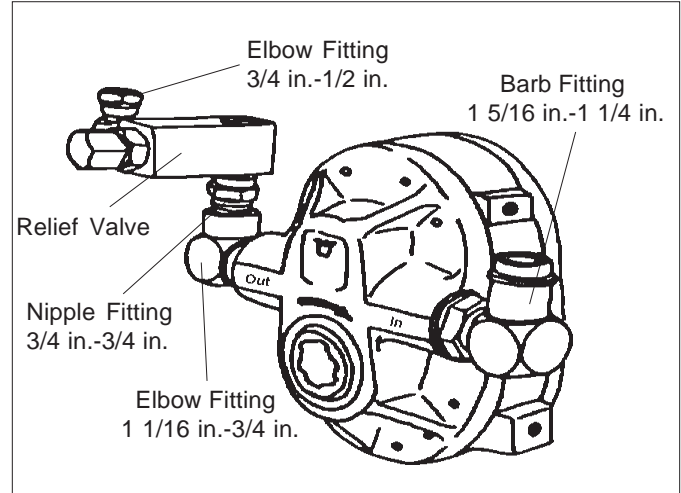

figure 1
1. Install the relief valve and fittings on the pump. (Refer to figure 1 during installation.)